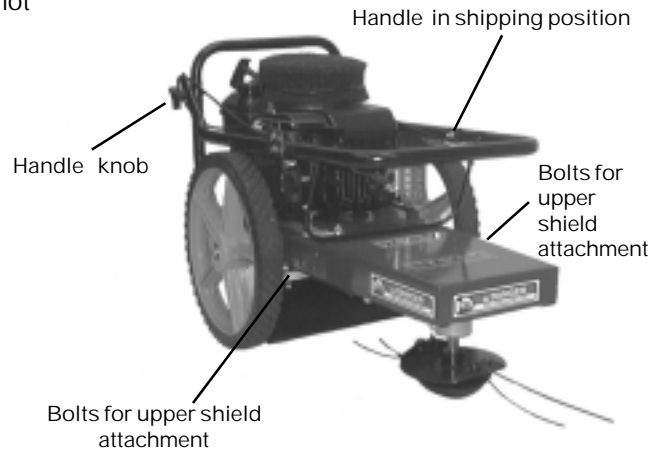

Figure 1
3. Raise the handles (See figure 1).